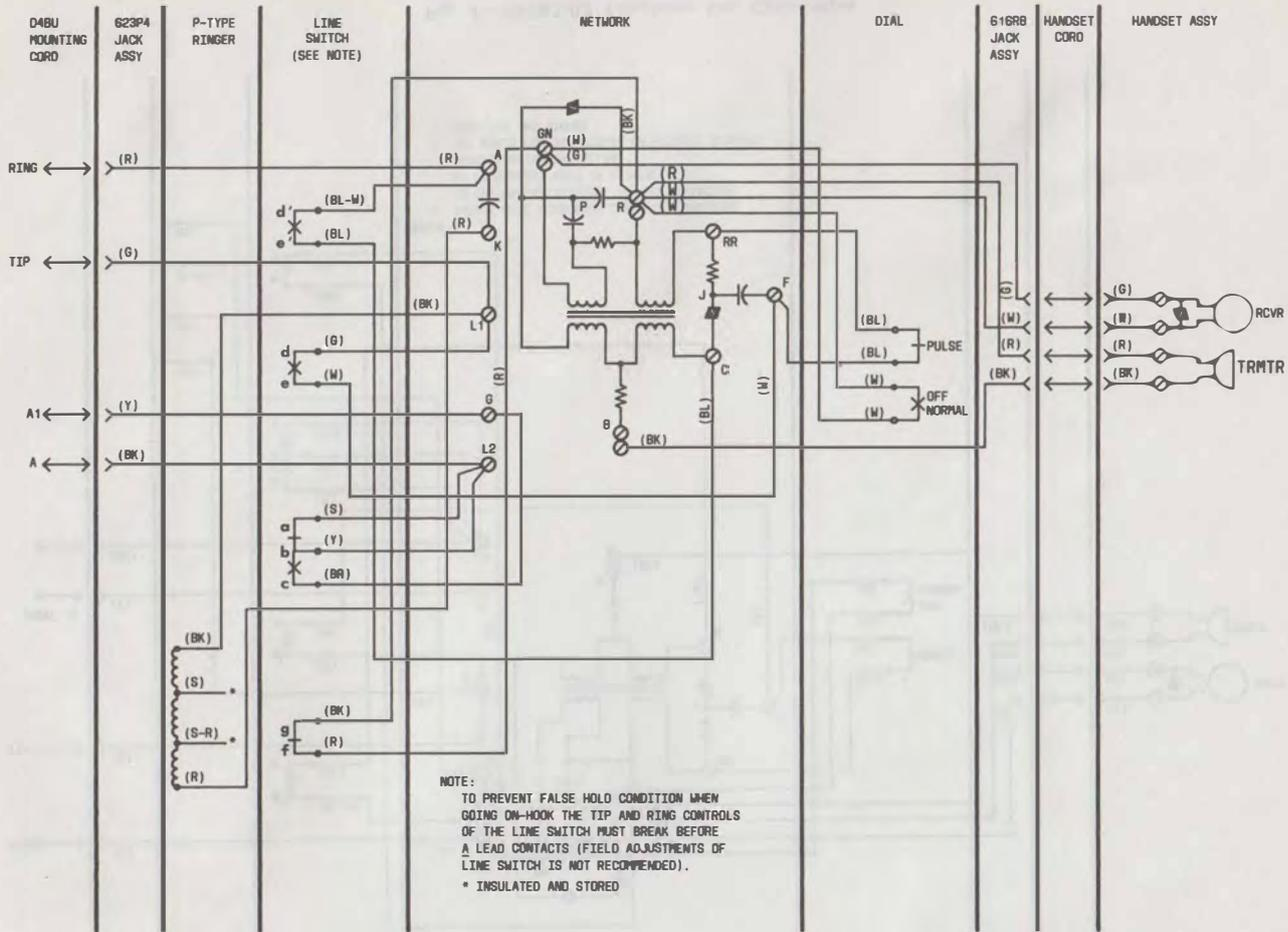

Fig. 5--951A1-03 Telephone Set Connections for 1A1 or 1A2 KTS
**3.07** Connections for 1A1 and 1A2 KTS require moving the brown (BR) line switch lead from L2 on the network to the G terminal as shown in Fig. 5.